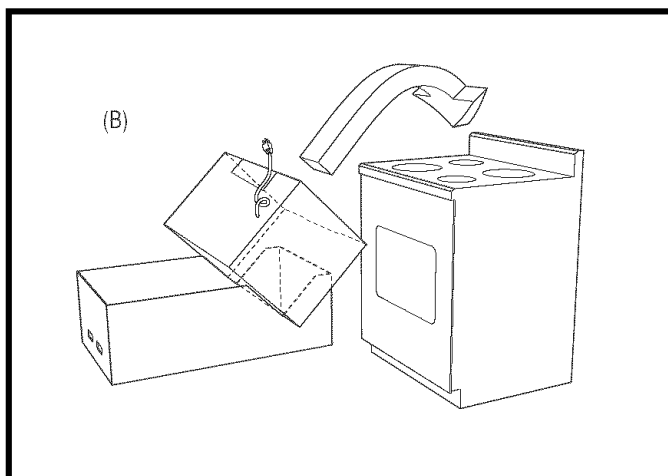

Figure 22
3. Position oven to assist in mounting to the wall. See Figure 22.